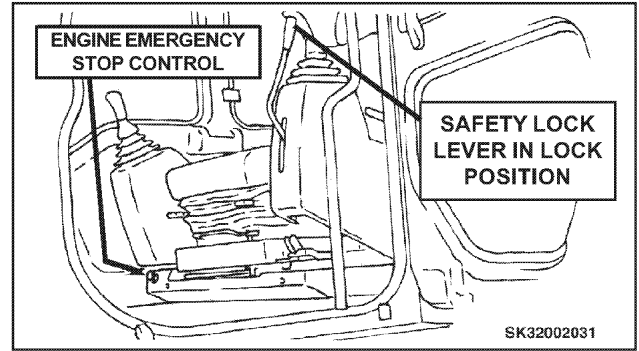

FIGURE 5.1
1. With safety lock in the lock (up) position. See Figure 5.1.